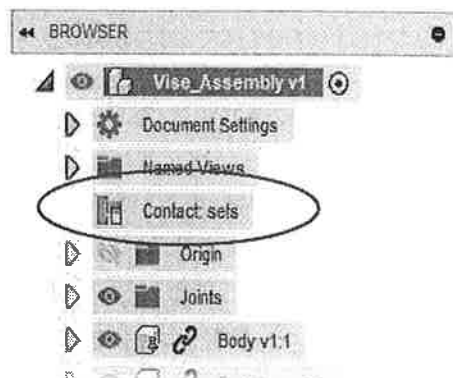

Figure 15-27
2. In the ASSEMBLE panel, click  (Enable Contact Sets). In the BROWSER, the **Contact: sets** node is added, as shown in Figure 15-27. This indicates that contact sets are being analyzed in the model.